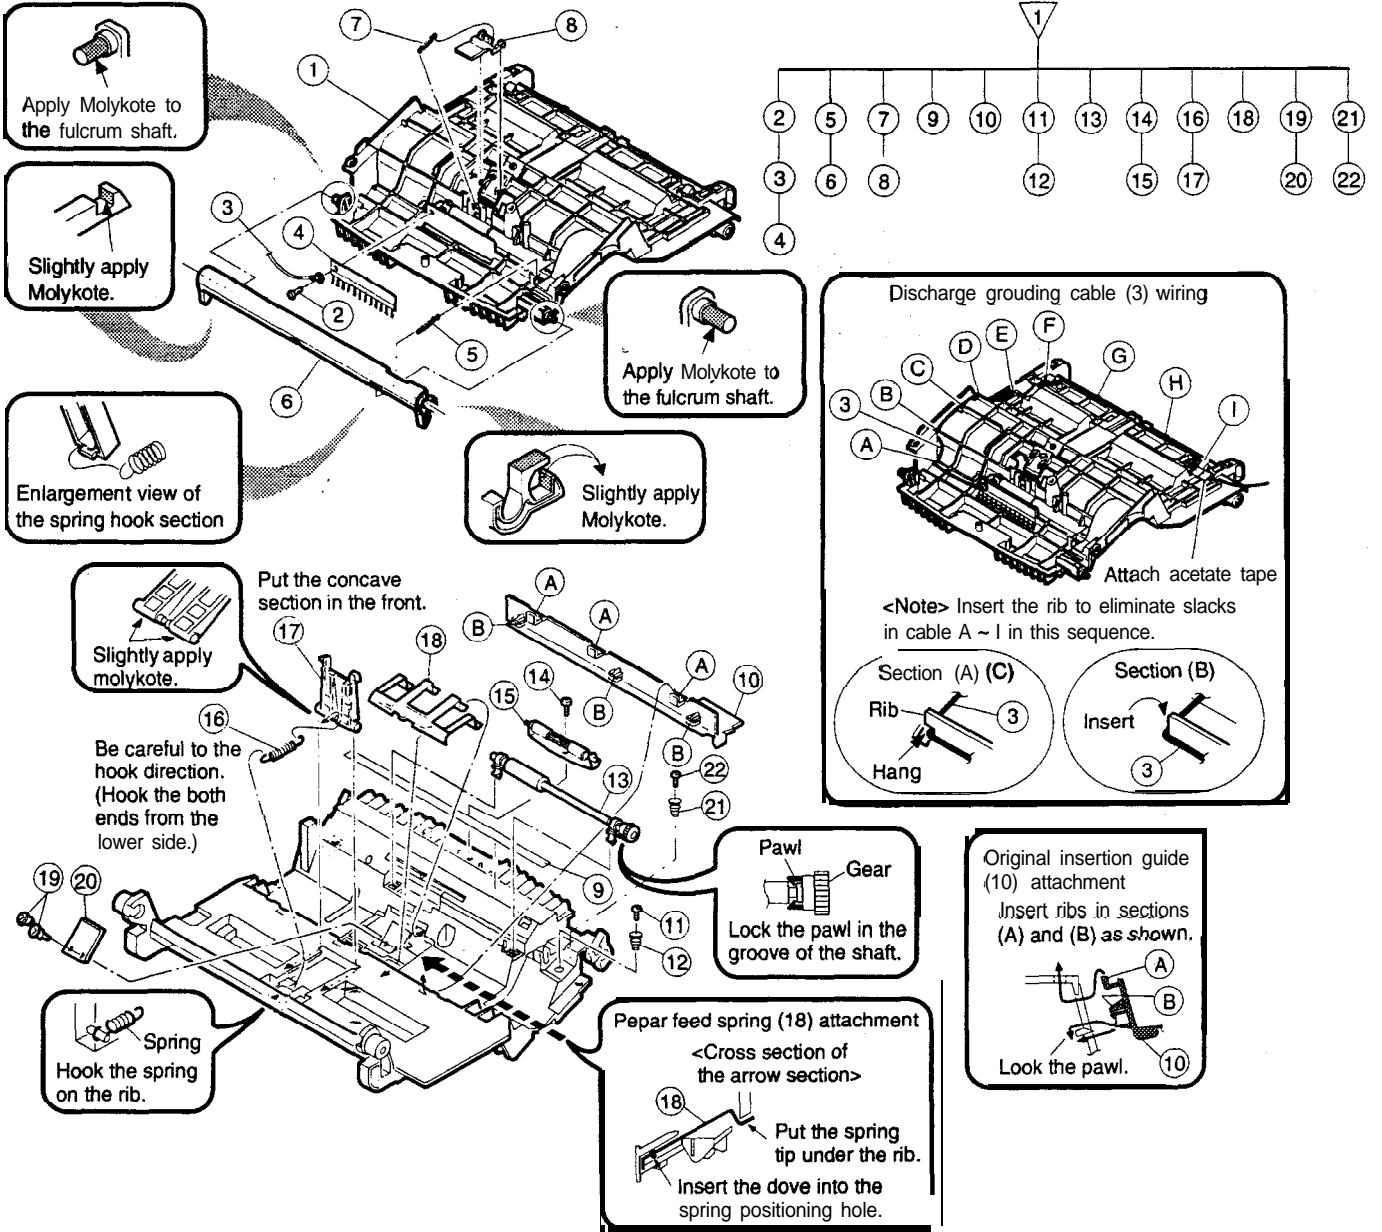

Fig. 6
Parts list (Fig. 6)
1. When attaching paper feed spring (18), be careful not to scratch separation rubber plate (20), and insert securely. (Refer to the enlarged view.)
2. When attaching stopper plate (17), apply Molykote to the stopper section (referring to the enlarged view), and place the concave section in the front surface, and attach open/close spring (16) as shown in Fig. 6. Be careful not to reverse the spring hook.
3. For attaching direction of original insertion guide (10), refer to the enlarged view.
4. When attaching release lever (6), apply Molykote to the enlarged view section of Fig. 6, and attach release lever return spring (5) as shown in the enlarged view. Be careful to the spring hook direction.
5. For wiring of discharge brush grounding cable (3), refer to the enlarged view.